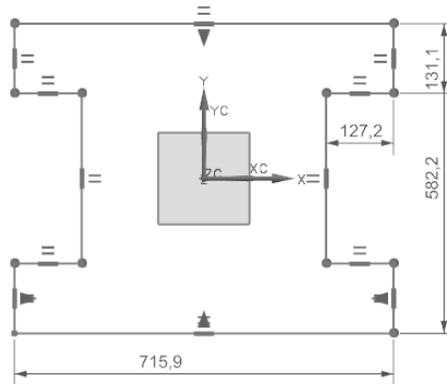

Figure 3-47 The outer profile after adding constraints
10. Similarly, make the lines 1 and 7 symmetric about the horizontal axis. The sketch after applying constraints to all these entities is shown in Figure 3-47.